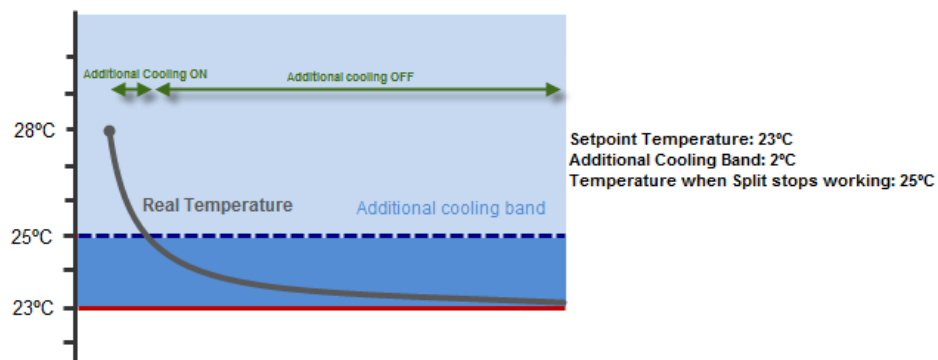

Figure 2.7. Additional Cooling example
- **Cooling mode:** when the room temperature (reference) is **higher or equal** than the **setpoint plus the additional cooling band**, the additional system will start working for increasing the cooling of the room. The additional cooling will be switched off (thus switching off the additional system) when the real temperature is lower or equal than the setpoint plus the band minus 0.5°C. See figure 2.7.